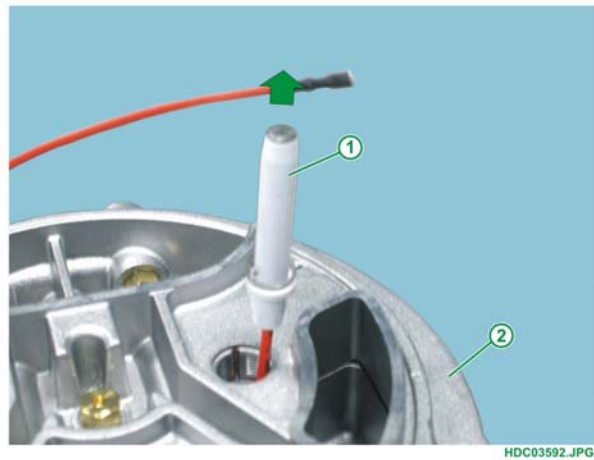

Fig. 40
3. Lift the spark plug upwards (see Fig. 40).